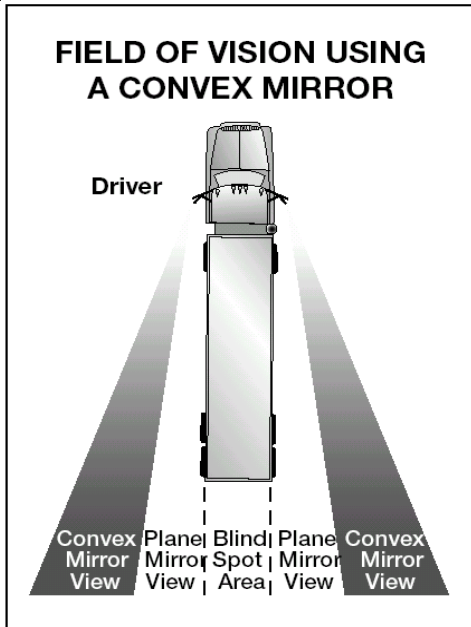

Figure 2.7
- ☐ Many large vehicles have curved (convex, "fisheye," "spot," "bug eye") mirrors that show a wider area than flat mirrors. This is often helpful. But everything appears smaller in a convex mirror than it would if you were looking at it directly. Things also seem farther away than they really are. It's important to realize this and to allow for it. Figure 2.7 shows the field of vision using a convex mirror.